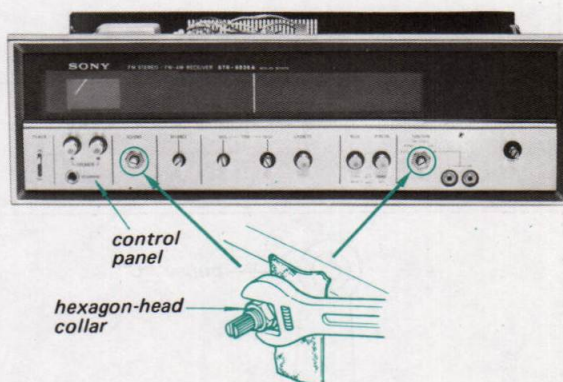

Fig. 2-4. Control panel removal
4. Remove the two hexagon-head collars securing the VOLUME control and FUNCTION switch to the control panel as shown in Fig. 2-4. Place a piece of cardboard between the wrench and control panel to avoid marring the panel. This frees the control panel.